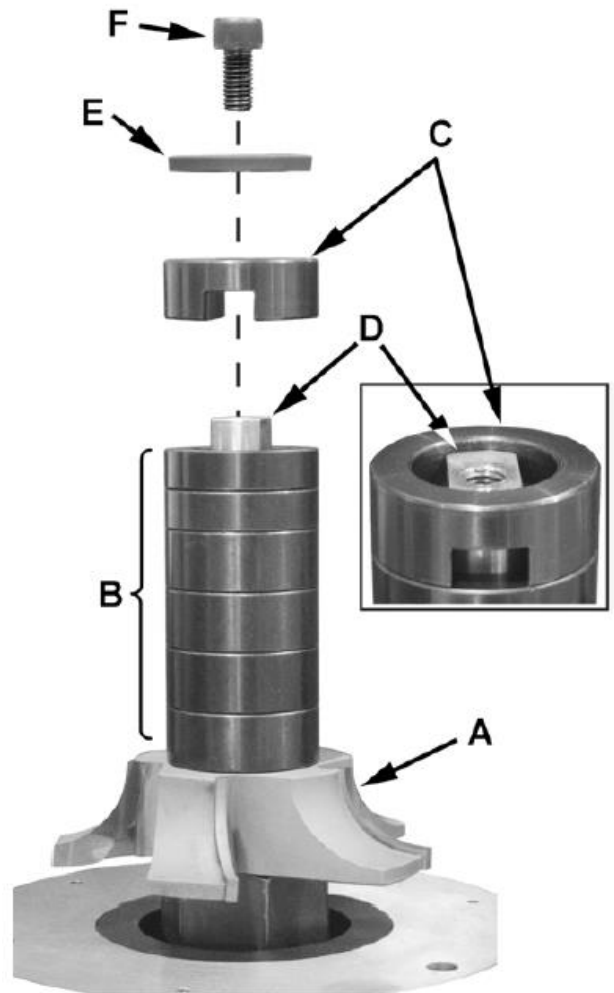

Fig. 15
2. Using an 8mm hex wrench (provided), remove the socket head cap screw (F) Fig. 15.
3. Remove the washer (E), keyed collar (C) and all or as many collars (B) as necessary.
4. Place the shaper cutter (A) (not included) onto the spindle, oriented in the proper direction.
5. Place the collars (B) and keyed collar (C) onto the spindle.